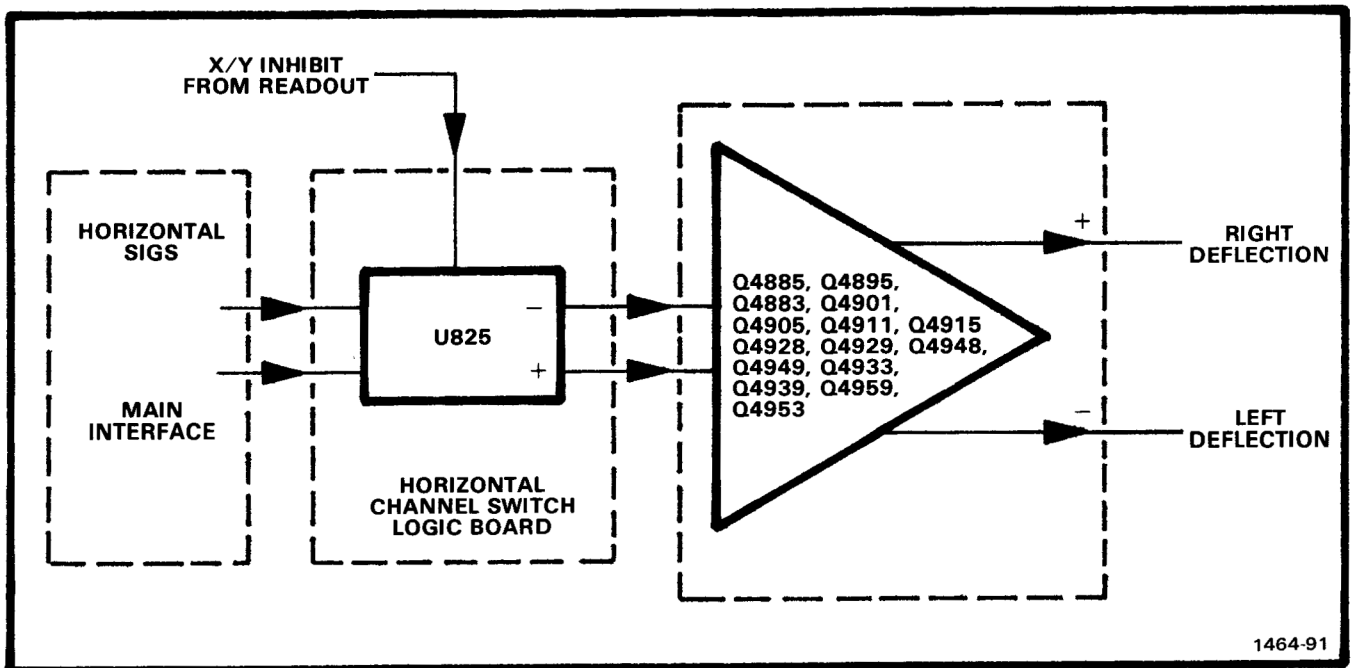

Fig. 3-21A. (SN B150000—above). Horizontal Detailed Block Diagram.
**Introduction.** The Horizontal System includes the Horizontal Channel switch and the Horizontal Amplifier. The Horizontal Amplifier circuit amplifies the push-pull horizontal signal from the Horizontal Channel switch and connects it to the horizontal deflection plates of the CRT. The single-ended Readout signal is converted to a push-pull signal in this stage, and amplified for the X portion of the Readout display. Figures 3-21A and B show a detailed block diagram of the horizontal system. A schematic diagram of this circuit is shown on diagram 7 at the rear of this manual.